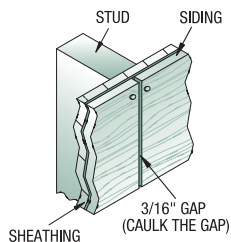

FIG. 2
- All lap products require that the butt joints be located on the studs and nailed at the joints. See Fig 2.
- Leave 3/16" gap at all butt joints, around all doors and window frames, and at joints in the soffits for all lap and square edge siding. Caulk all gaps. See Fig 2.
- Vertical butt joints must be located only on studs. Each piece of siding must be nailed top and bottom to studs. See Fig. 2.